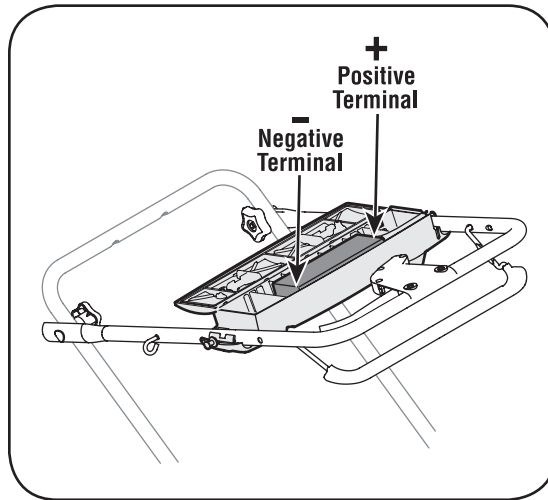

Figure 5-14: Open cover to view battery and wires.
3. Open battery cover, remove positive and negative leads from battery, remove and replace with new battery. See Figure 5-14. Connect the positive lead to the positive side of the battery pack, then connect the negative side.
NOTE: The battery you have may differ slightly from the one shown in Figure 5-14. Refer to the Parts List.
IMPORTANT: When replacing battery pack in handle panel, battery pack must be positioned with the positive terminal to the left side and the negative terminal to the right side of panel (Positive terminal is closest to the key switch). See Figure 5-14. Replacing battery pack incorrectly will cause serious damage.